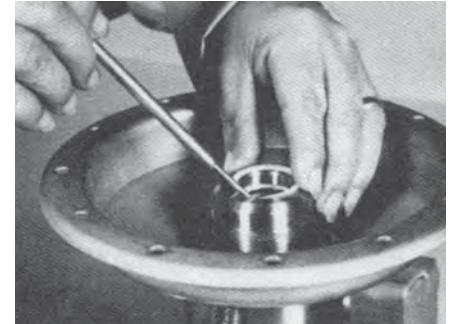

Figure 7-5 Installing seals in fluid body.
7.7 Install new seals in sealing groove in the bore of the fluid body (21), (see Figure 7-5) in the following sequence relative to pump ratio:
a. 10:1, 20:1 and 30:1 pumps: packing retainer (18)- bottom, o-ring (17)-middle, and packing retainer (18)-top;
b. 35:1 thru 300:1 pumps: back-up ring (18A) on top, o-ring (17) in middle, and packing retainer (18) on bottom of sealing groove. For o-ring replacement of JB models, see page 15.